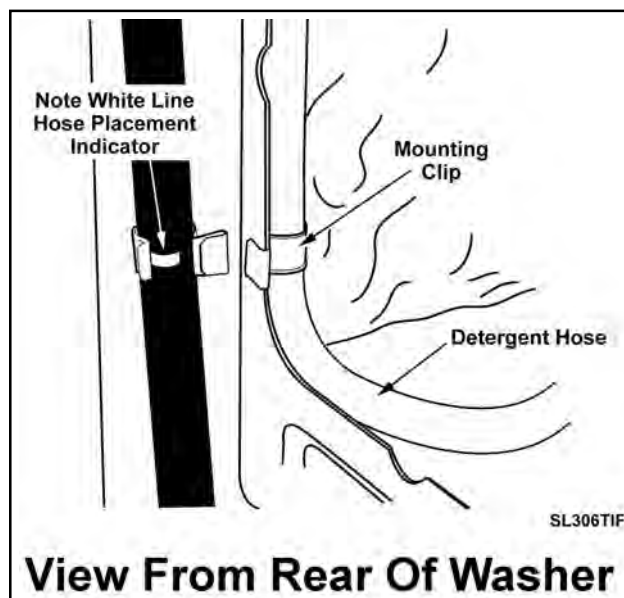

Figure 8-8
3. Locate the rear mounting clip on the detergent hose in the access panel opening and slide the clip off the cabinet flange. *(See Figure 8-8)*